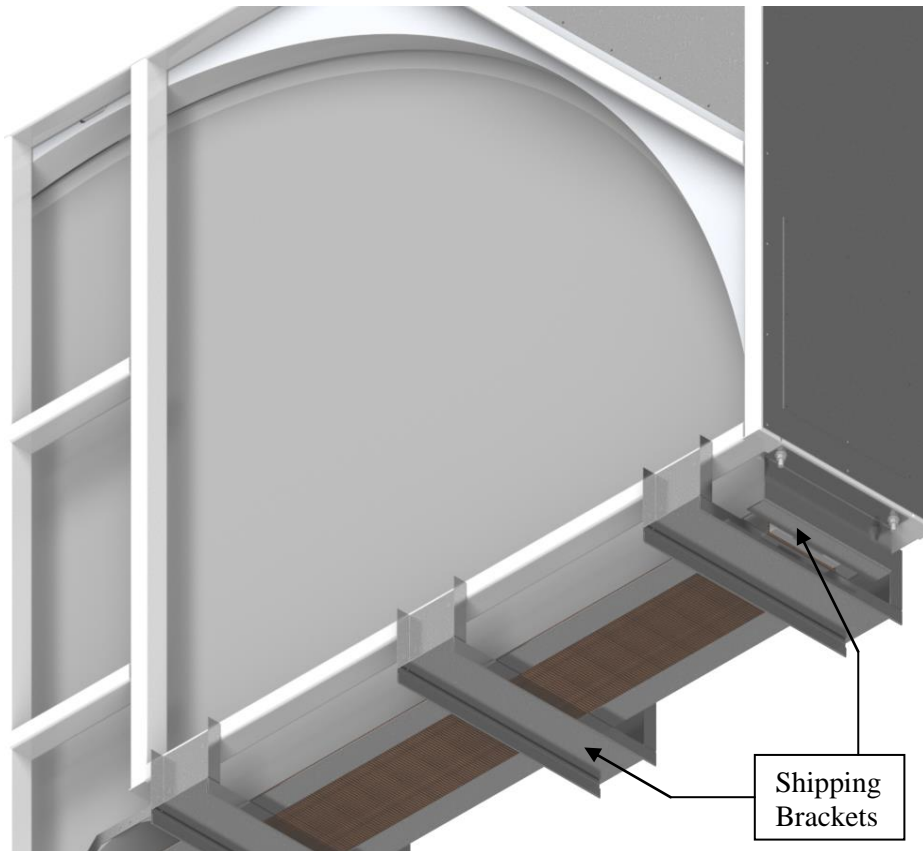

Figure 2
- Lift and suspend the top half of the energy recovery wheel using the eyebolts provided. Remove all shipping braces along the bottom of the rotor (see Figure 2).